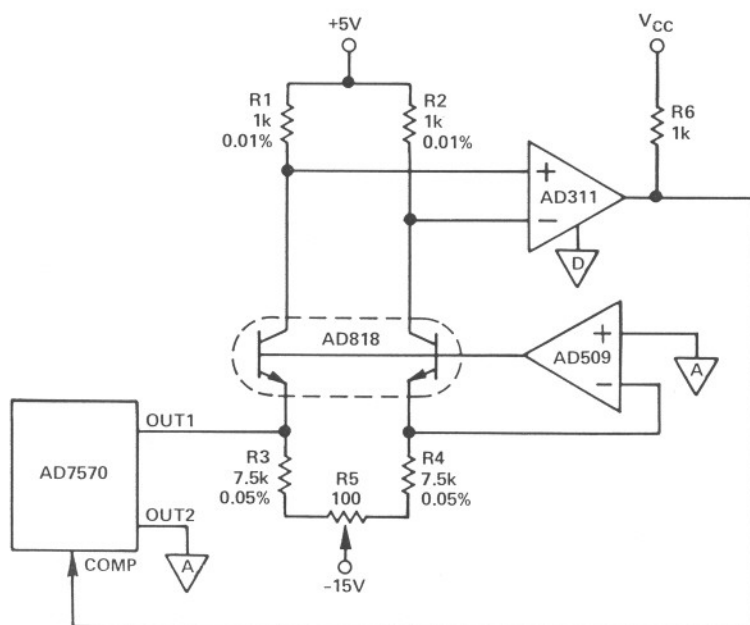

Figure 9. Current Comparator With Low Input Impedance
2. Use a zero input impedance comparator. Figure 9 illustrates a comparator circuit which has an input impedance of approximately 26 Ω . Proper circuit layout will provide 10-bit accuracy for clock frequencies >500kHz.